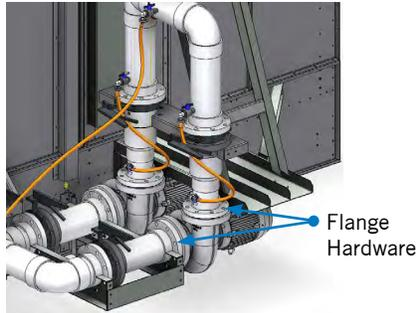

Figure 13.
4. Loosen and remove the flange hardware and gaskets from the suction and discharge flanges of the pump volute. See **Figure 13**. **NOTE:** Do not remove hardware from the discharge or suction valves.
2. Attach the flange hardware and gaskets to the suction and discharge flanges of the pump volute. See **Figure 13**.